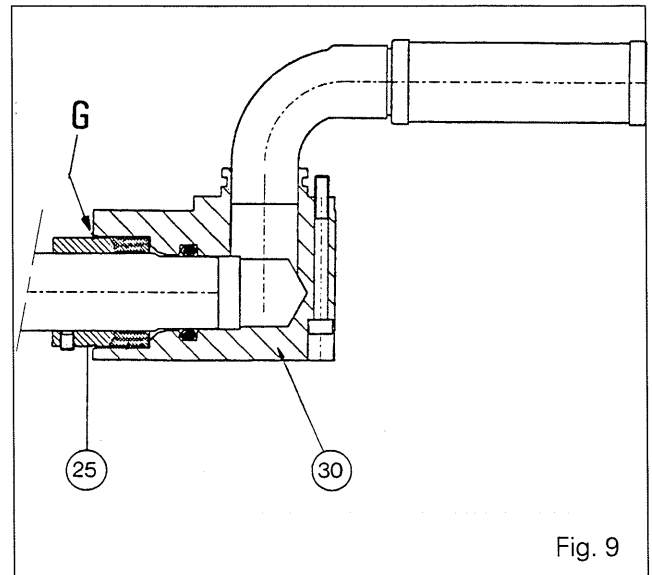

Fig. 9
50. Replace the dust guards (27). Refit the tube (17) and flanges (19) and (25), checking that recess «G» in flange (25) is correctly aligned with the face of block (30) (Fig. 9). Tighten bolt (26). Tighten bolts (38) to between 25 and 35 Nm.